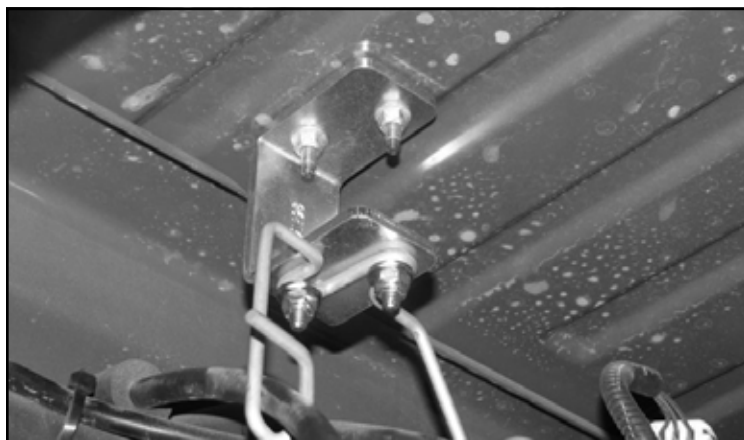

FIGURE 32 - STEP 26
26. Locate FT50298 E-Brake Bracket and supplied $\frac{1}{4}$ " hardware. Position the bracket to the factory mounting position and attach with the factory hardware. Attach the factory bracket to the new Fabtech bracket with the $\frac{1}{4}$ " hardware. Torque to 10 lbs. **SEE FIGURE 32**